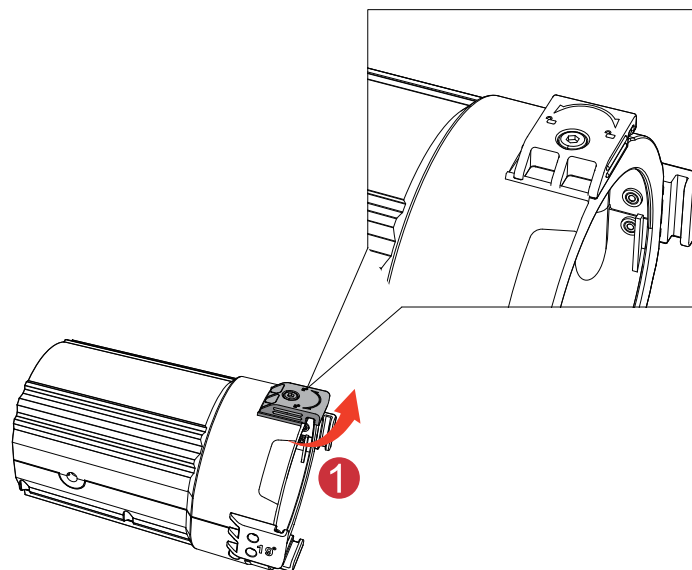

Figure 9
- 1) As shown in **Figure 9**, lift and rotate the spring-loaded latch to open the gel holder slot.